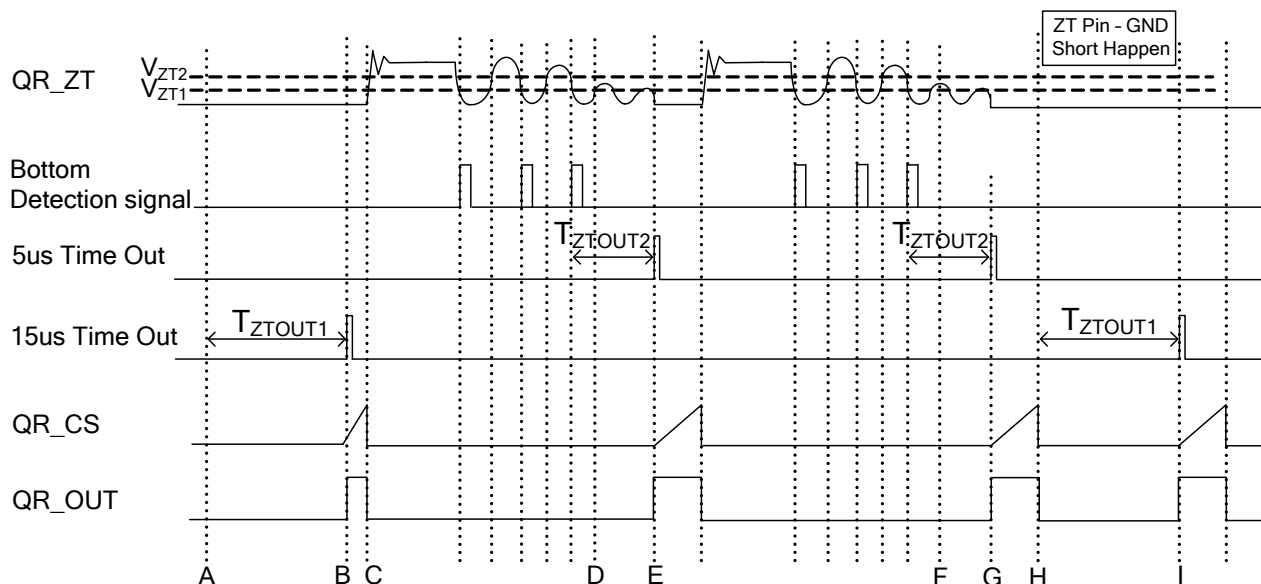

Figure 19. The Function of ZT Time Out.
**(6-6) ZT Timeout Function (Figure 19)****(6-6-1) ZT Timeout Function 1**